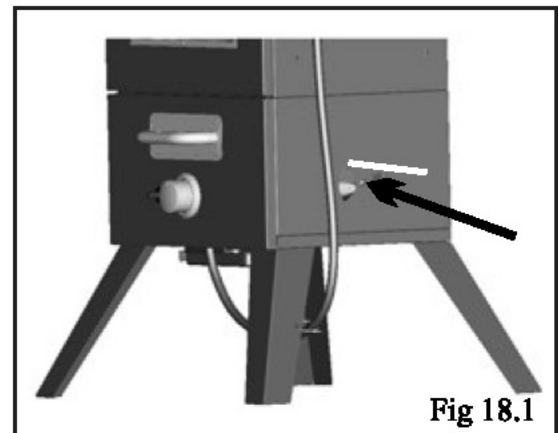

Fig 18.1
3. Use the match holder to secure and direct the match into the hole to burner, when igniter is not working. Fig 18.1